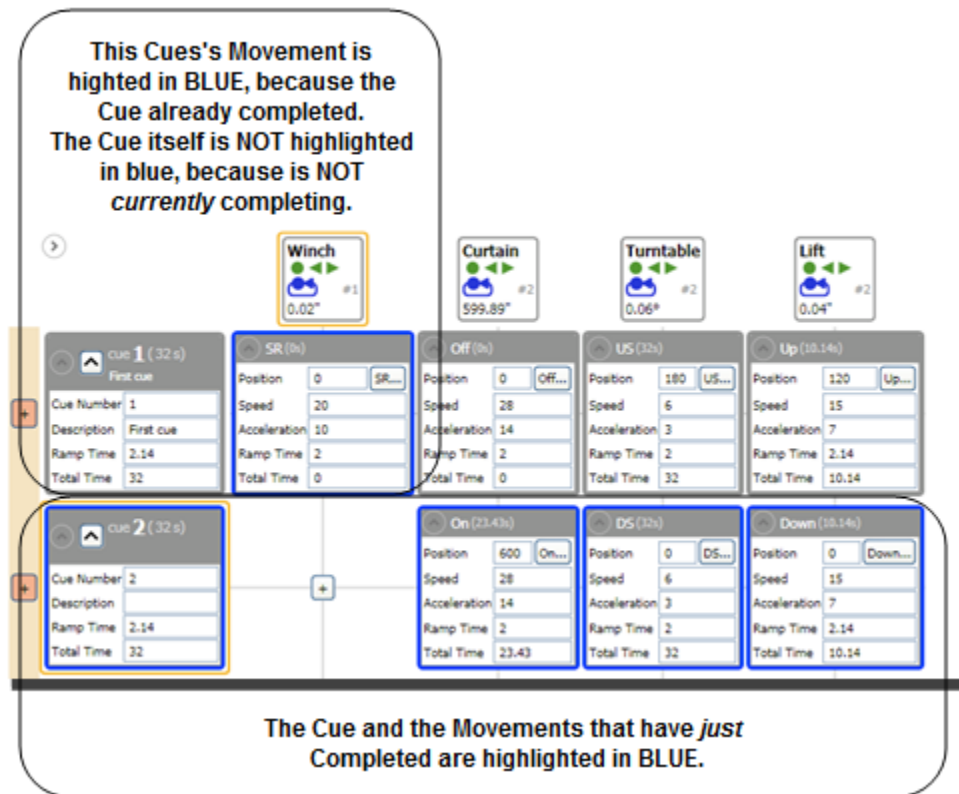

Figure 334
1. As the motor movements and the cue complete, the interface shifts colors again and the borders in the **Cue Grid** turn blue (Figure 334).